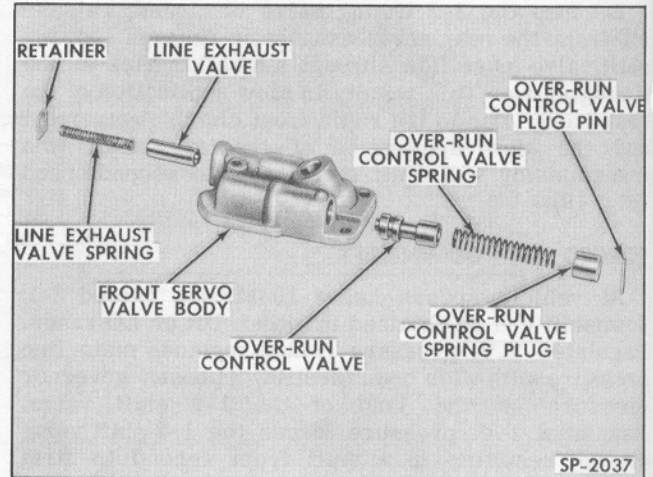

Fig. 25—Front Servo Valve Body Disassembled
7. Remove the overrun control valve plug pin, spring plug, spring and overrun control valve (Fig. 25).
8. Remove the line exhaust valve retainer, line exhaust valve spring and the line exhaust valve (Fig. 25).
8. Check the overrun control valve for free movement in the bore, and for scoring (Fig. 25).